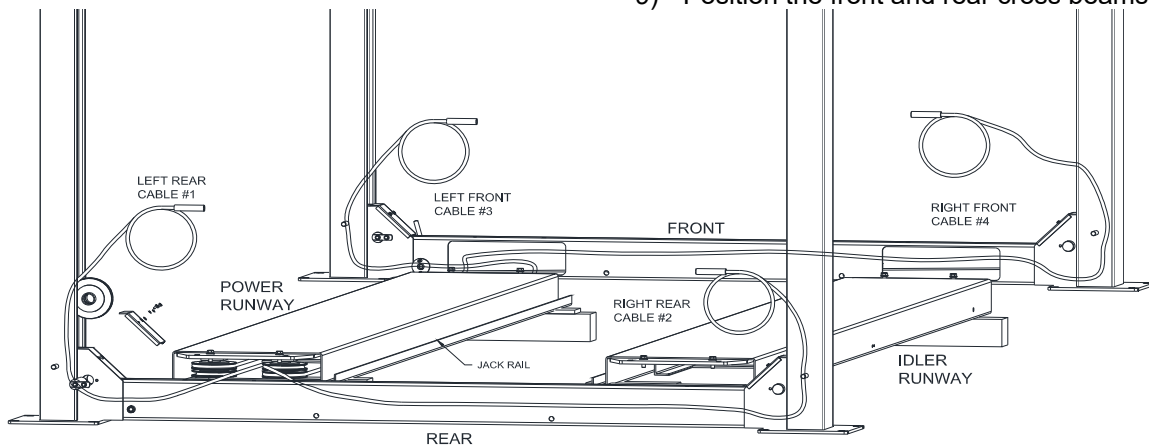

Fig 7 – Runway Layout
- 8) Position runways on blocking (**see Fig 7**) per layout lines established in step 1. Use four 30" long 4x4's spanning the width of the runway and four 12" long 1x4's to shim up the jack-rail side of the runway. Cable #1 & #2 should be extending out from the rear of the power runway and cable #3 & #4 from the front of the power runway, **Fig 7**.
- 9) Position the front and rear cross beams, **Fig 7**.